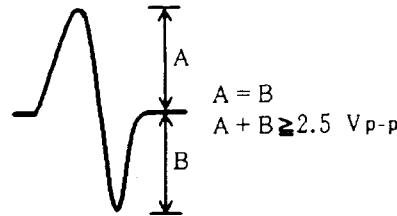

Figure 8
3. While watching the oscilloscope screen, press the OUTPUT key and observe the waveform in Figure 8 for a moment. Verify that the amplitude is at least 2.5 Vp-p and that the positive and negative amplitude are about equal. Since the waveform is only output for a moment when the OUTPUT key is pressed, press this key over and over until you have checked the waveform.